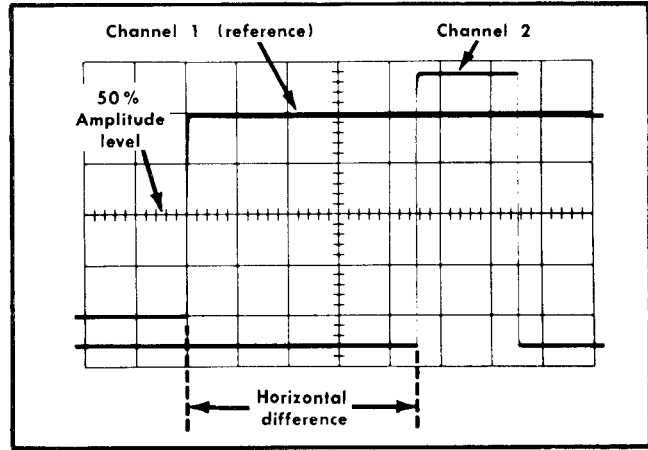

Fig. 2-19. Measuring time difference between two pulses.
11. Measure the horizontal difference between the Channel 1 waveform and the Channel 2 waveform (see Fig. 2-19).
Example. Assume that the TIME/DIV switch is set to 50 μ s, the MAG switch to X10 and the horizontal difference between waveforms is 4.5 divisions (see Fig. 2-19).